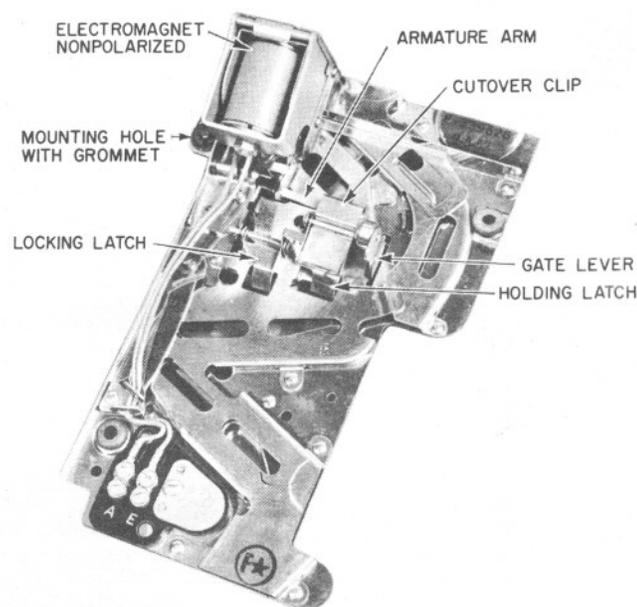

Fig. 12 — Prepay Steel Coin Chute (Equipped with Cutover Clip for 5-Cent Service)
4. At dial stations, when dial tone is heard, dial any digit except one (1) to break dial tone; then hang up receiver or handset. Coins shall drop into coin return on hang-up. At manual stations, when operator answers, request that coins be returned.
9. If cutover clip is used for 5-cent operation, initial nickel deposited shall not be held at holding latch. All other tests shall be same as above (see Fig. 12).